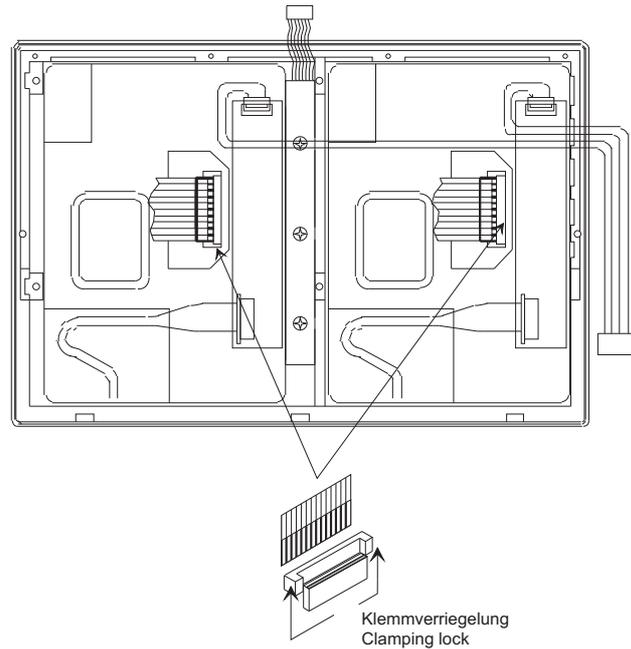

Fig. E 8-5: Removing the flat cable from the display
8. Loosen the lockers of the flexible flat cables at the display units. Remove the flat cables. Avoid damage of the flat cables because of canting (Fig. E 8-5).